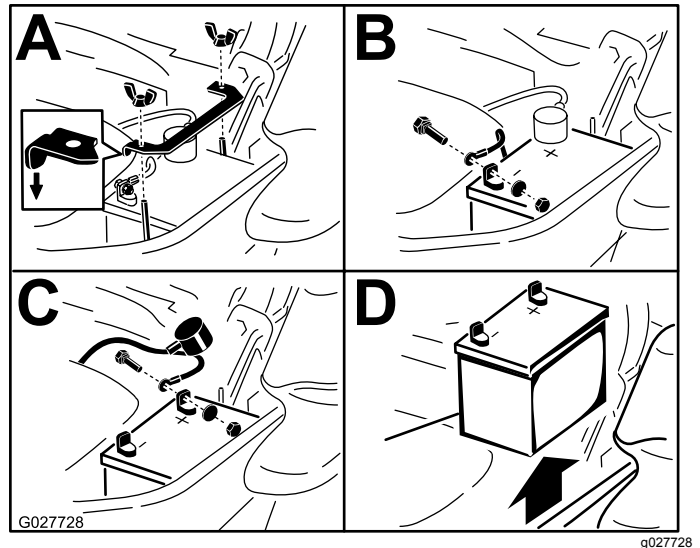

Figure 56
3. Disconnect the negative battery cable (black) from the negative (-) battery terminal (Figure 56).
4. Slide the red terminal boot off the positive (+) battery terminal and remove the positive (red) battery cable (Figure 56).
5. Remove the wing nut securing the battery clamp (Figure 56).
6. Remove the clamp (Figure 56).
7. Remove the battery (Figure 56).
1. Position battery in the tray with the terminal posts opposite from the hydraulic tank (Figure 56).
4. Secure the cables with 2 bolts, 2 washers, and 2 locknuts (Figure 56).
6. Install the clamp and secure it with the wing nut (Figure 56).